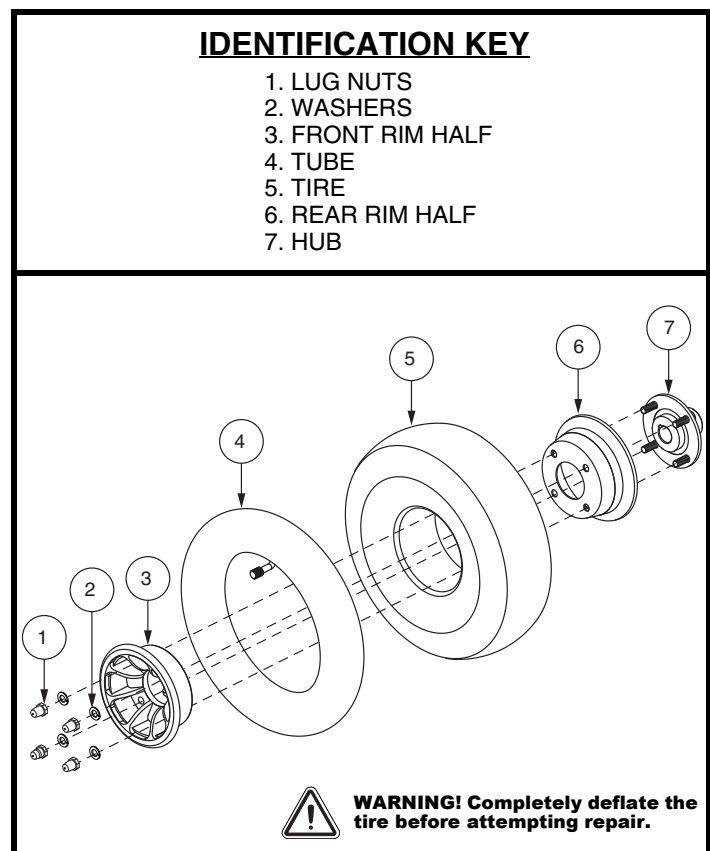

Figure 25. Pneumatic Drive Wheel Disassembly/Assembly
6. Remove the lug nuts and washers and separate the rim halves. **See figure 25.**
7. Remove the old tube from the pneumatic tire and replace it with a new tube. **See figure 25.**